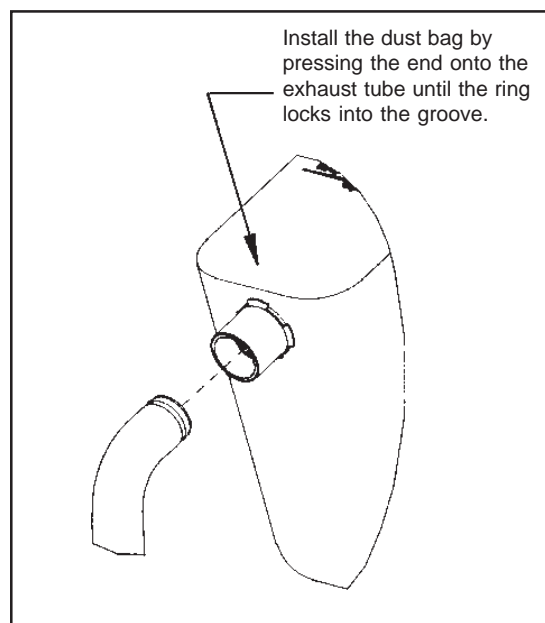

Figure 2
1. Install the dust bag by pressing the end onto the exhaust tube until the ring locks into the groove (figure 2). This is best done by pressing on the back of the bag opening with the palm of your hand.